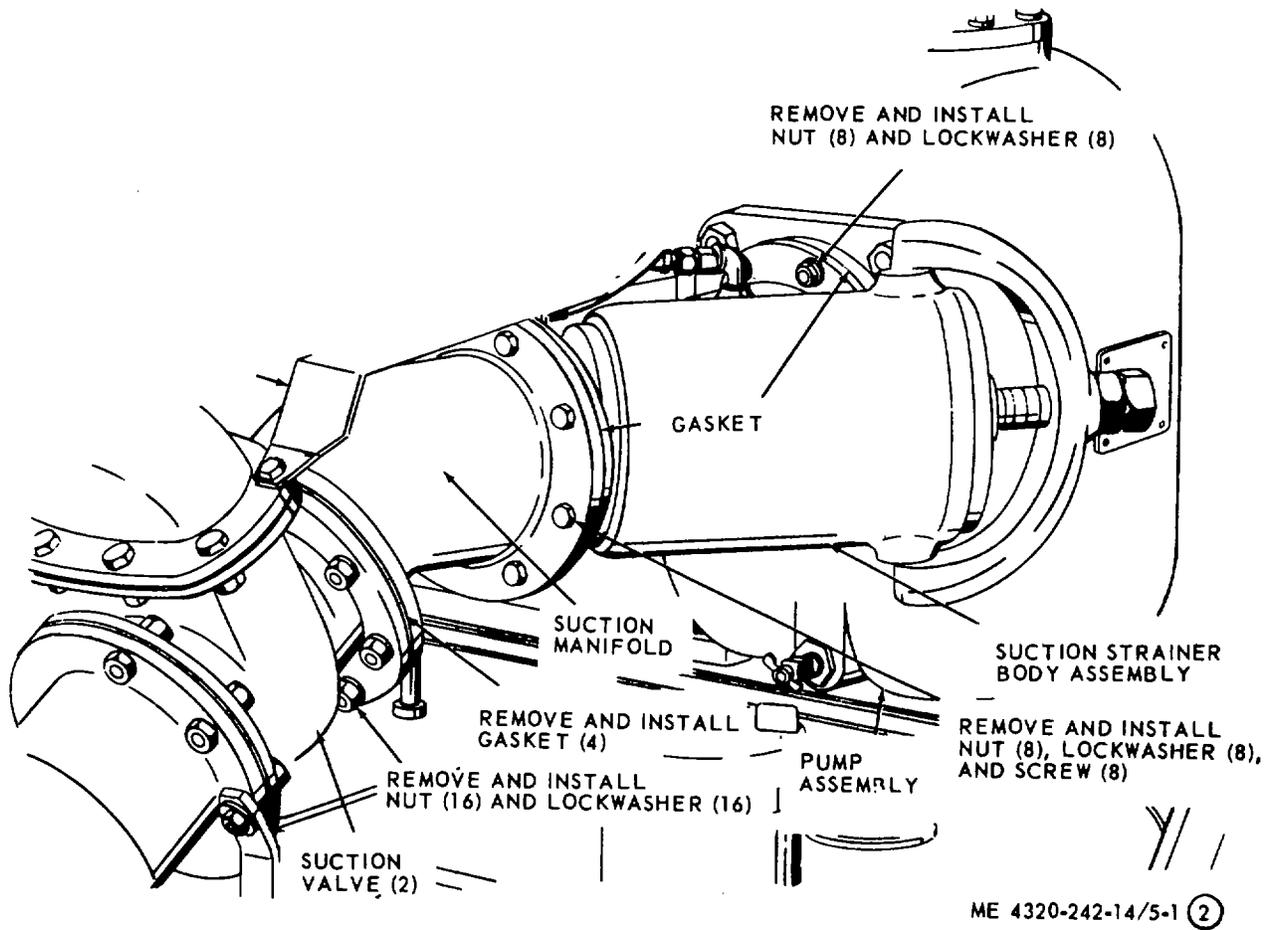

Figure 5-1. Suction manifold and strainer body assembly, removal and installation. Model 84C15-4A084, serial numbers 419501 through 419959. (Sheet 2 of 2)
a. *Removal.* Refer to figure 5-1 and remove the
b. *Installation.* Refer to figure 5-1 and install the suction manifold and strainer body assembly.
Figure 5-1. Suction manifold and strainer body assembly. removal and installation. Model 84C15-A0484, serial numbers 371201 through 415493 and Model US36ACG, serial numbers 37044-001 through 37044-240. (Sheet 1 of 2)
- (2) Remove throttle control line.
- (3) Remove tachometer hourmeter cable and clip.
- (4) Remove pump suction line.
- (5) Remove pump pressure line.
- (6) Remove engine oil pressure lines.
- (7) Remove instrument panel.
- (8) Remove bolt lockwasher from intermediate housing and flywheel guard.
(9) Remove the suction manifold and strainer body assembly (fig. 5-1 (1)).